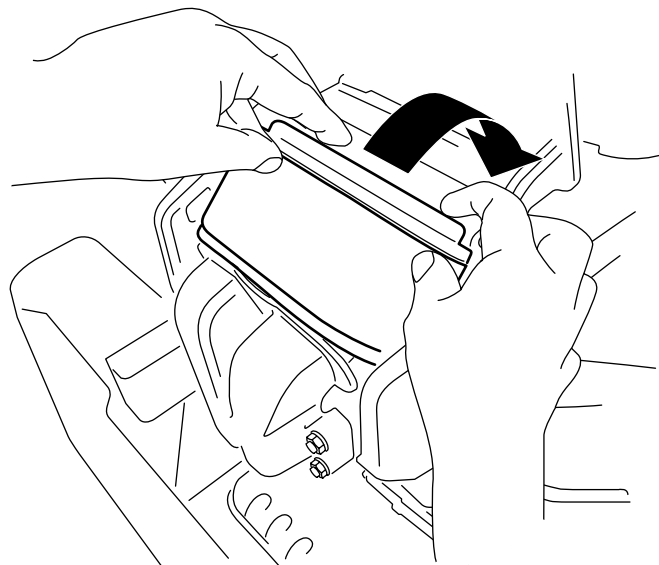

Figure 30
3. Rotate the filter down into the chamber and fully seat it against the manifold (Figure 30).